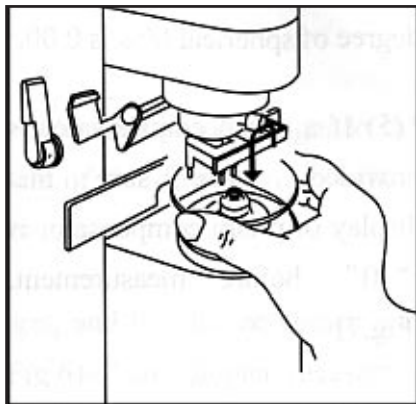

Fig. 8
1. Lens shall be placed on measurement bearing seat with concave facing downwards (Fig.8).